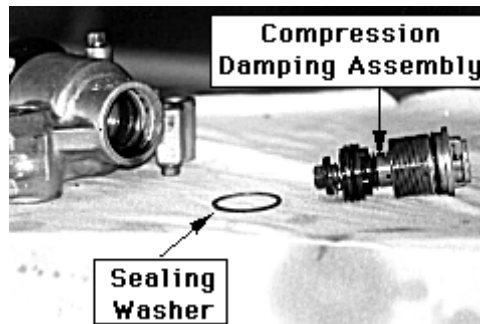

Fig 8
12. Install the fork assembly tool (Suzuki part number 09940-30220) on the fork cylinder and remove the compression damping assembly and sealing washer, **fig 8**.